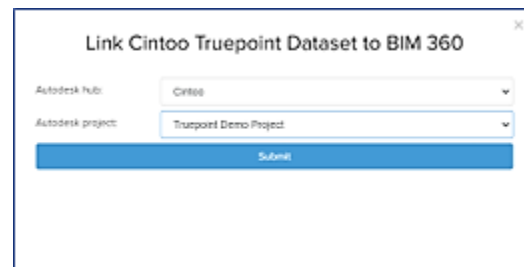

FIGURE 20: SELECT HUB AND PROJECT
- Select your Hub and Project in BIM 360 (Figure 20)